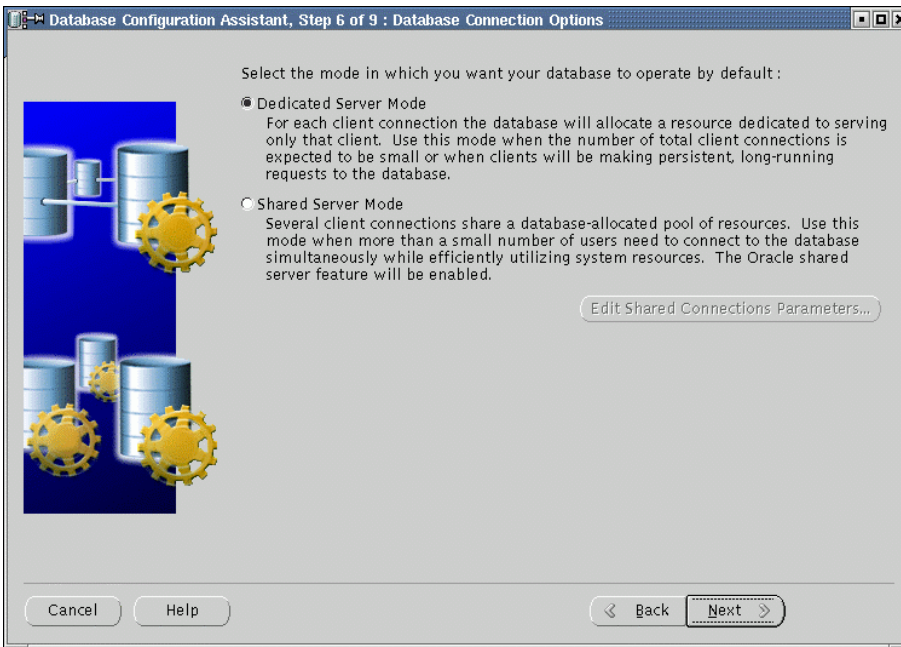

Figure 83. dbca database connection options
14. The next screen is for Database Connection Options (Figure 83). Select **Dedicated Server Mode** and click **Next** to continue.